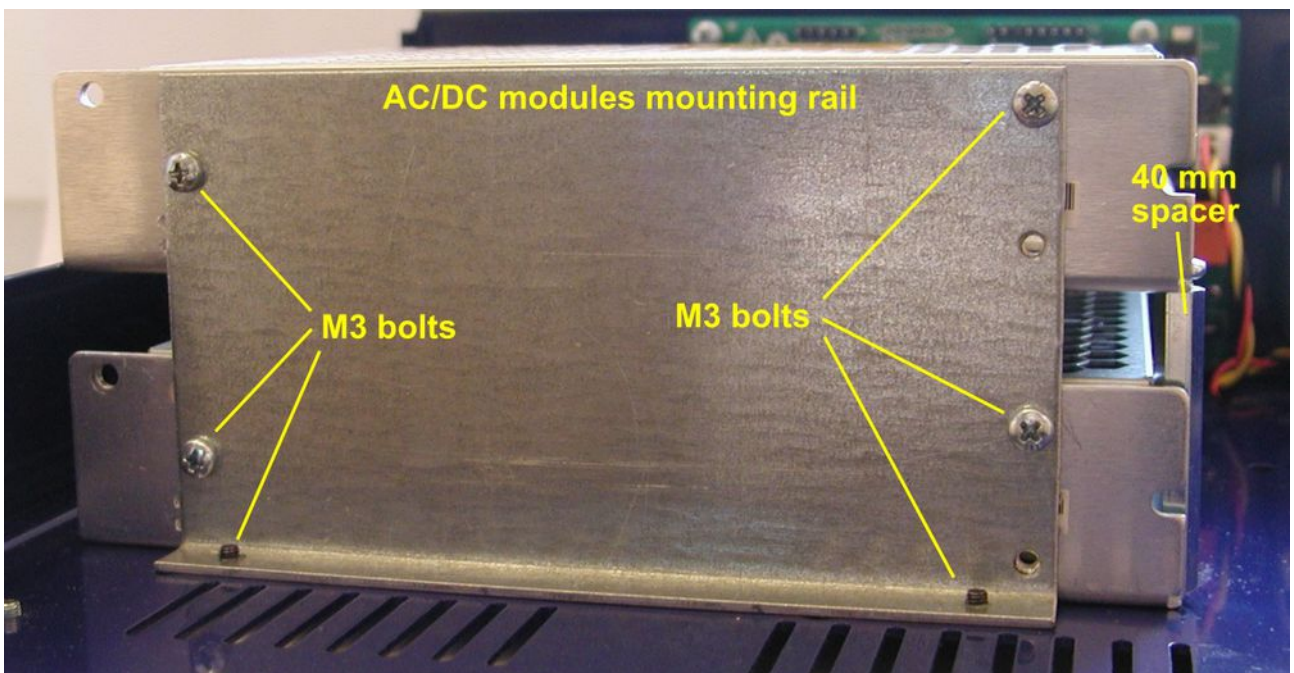

Fig. 31: AC/DC power modules mounting rail
- Mounting rail for AC/DC power modules (Fig. 31)
The two AC/DC modules have to be stacked on top of each other and mechanically fixed on one side with the AC/DC mounting rails (Fig. 31). Those bolts hold equipment with AC mains current connections; it would be well to use a little threadlocking fluid on their threads to prevent accidental loosening. Additionally, two 40 mm long spacers are used for better mechanical strength.